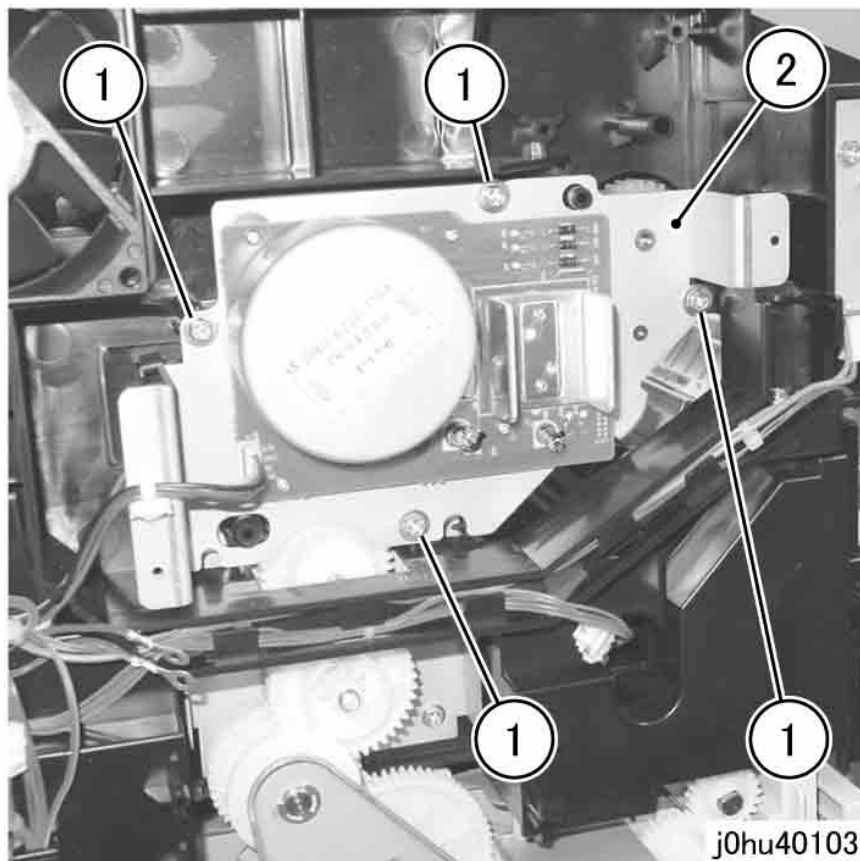

Figure 2 Remove IOT Motor
4. Remove the IOT Motor (Figure 2).